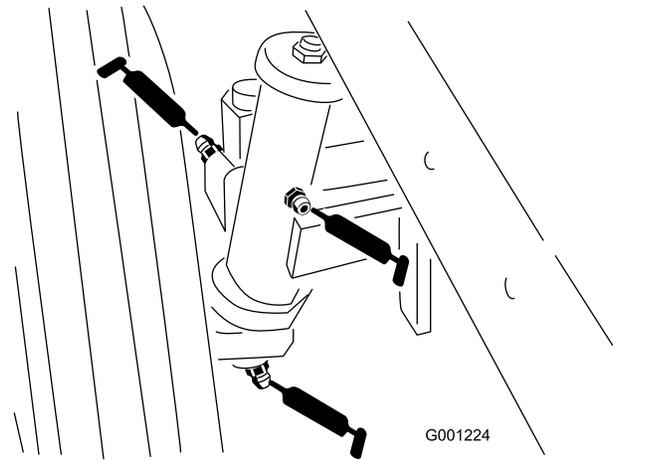

Figure 41
- Rear wheel spindle bushings (Figure 41)